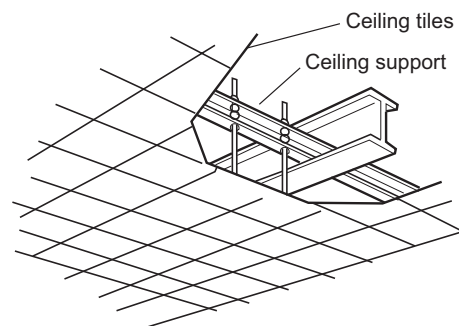

Fig. 2-142
- Use existing ceiling supports or construct a suitable support as shown in Fig. 2-142.